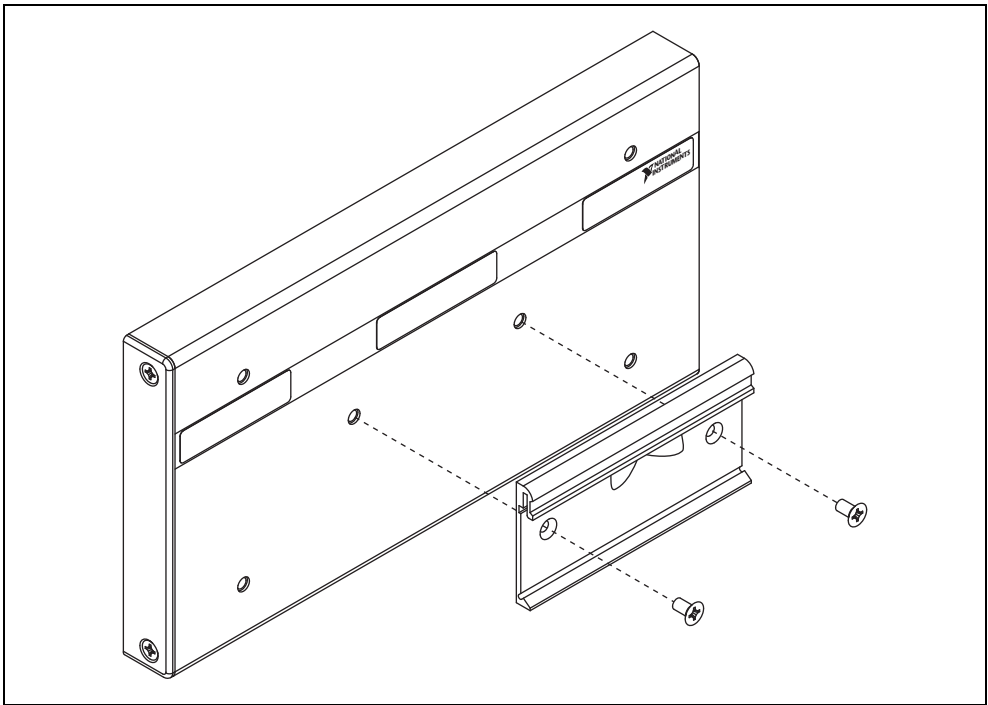

Figure 6. Fastening the DIN Rail Clip to the UMI-7774/72
1. Fasten the DIN rail clip to the UMI-7774/72 using a number 2 Phillips screwdriver and the two 8-32 \times 0.25 in. countersink screws shipped with the DIN rail clip as shown in Figure 6. These screws have a nylon coating to prevent them from loosening.